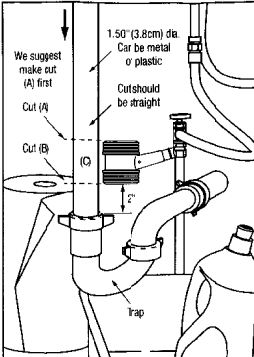

Fig.2
Thoroughly wet coupling in water before folding ends back and before installing over pipe ends (A) and (B) as shown in Fig.2.
Typical view of Fig.2 plastic tailpiece after installing the Drain-BOA™ Rubber Coupling